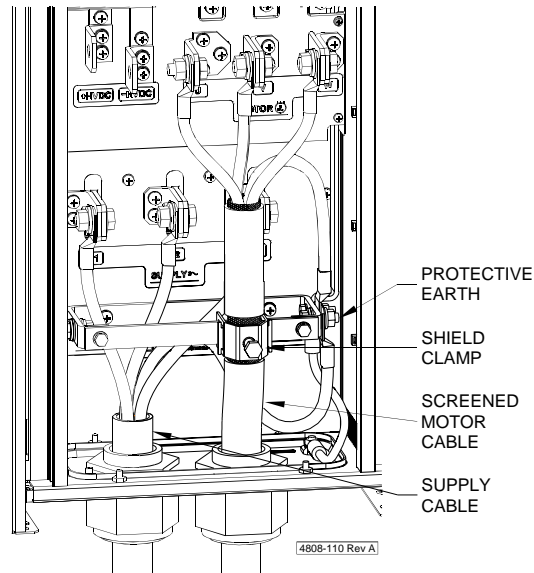

Figure 5.5: Ultradrive Elite Frame 4 Cable Configuration
- The Microdrive Elite Series and Ultradrive Elite frame 4 are fitted with electromagnetic interference (EMI) filtering as standard. External supply side EMI filters are required for the Ultradrive Elite frames 5 to 7. To maximise the effectiveness of these filters, screened cable (minimum - neutral screen, steel conduit; preferred - copper tape and/or mesh) must be used on the Elite Series output. Bond the screen solidly to the Elite Series and motor chassis. Failure to use screened output cables may lead to disruption of other electronic equipment. The output cables should be run separately from the input cables, to reduce the chance of EMI cross-coupling between cables. Refer to Figures 5.5 to 5.7 for screen connection details.